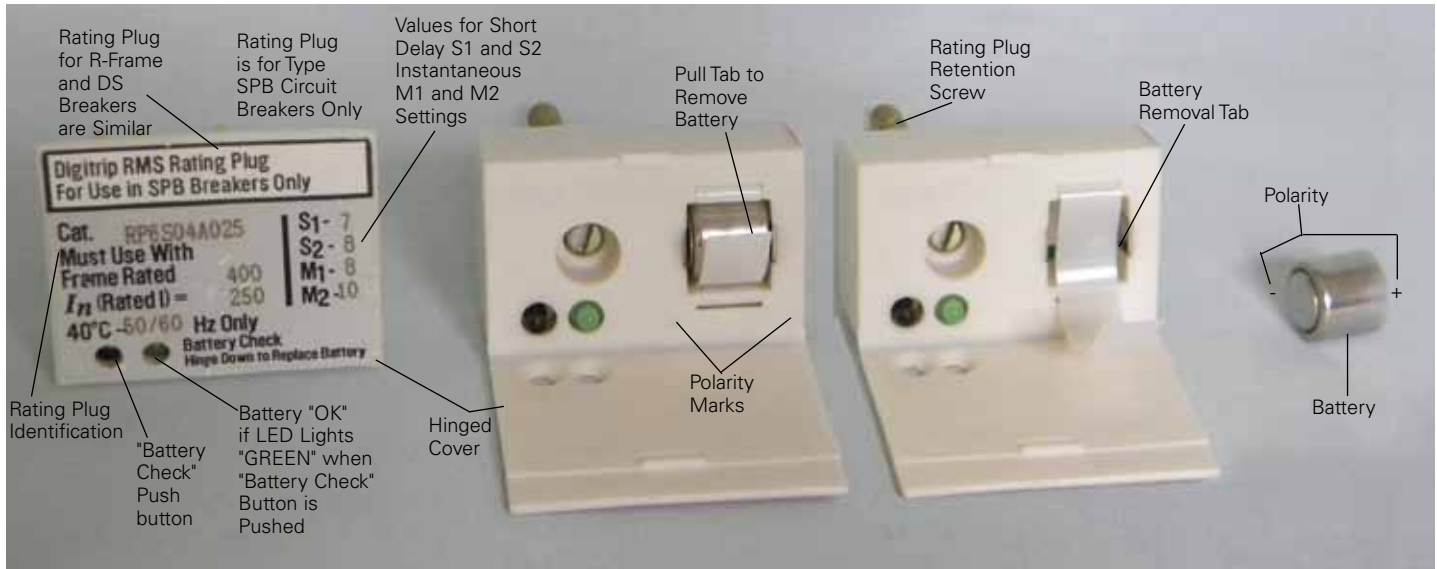
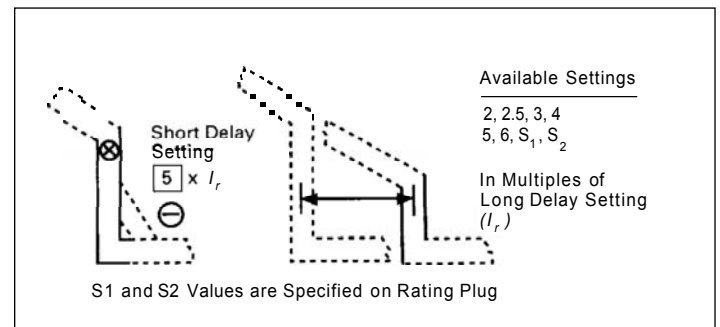
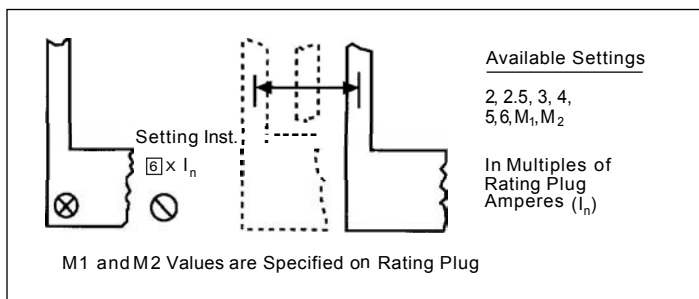

Figure 9. Rating Plug.
Figure 15. Short Delay Current Settings.
Figure 17. Instantaneous Current Settings.
The **Rating Plug** (see Figure 9) fits into a special cavity to complete the Trip Unit (see Figure 1).
Rating plugs have two current ratings listed on their covers (see Figure 9).
There are eight (8) available Short Delay "Pick-up" Current Settings, as illustrated in Figure 15. Six settings are in the range from 2 to 6 times I_r and the other two settings are "S1" or "S2" times I_r (REMEMBER: I_r is the Long Delay Current Setting). The values that "S1" and "S2" have depend upon the type of circuit breaker, and are specified both on the rating plug label (see Figure 9) and on the applicable (LS) Time-Current Curve referenced in Section 6.
There are eight (8) available Instantaneous Current Settings, as illustrated in Figure 17. Six settings are in the range from 2 to 6 times the rating plug value (I_n), and the other two settings are "M1" and "M2" times (I_n). The values that "M1" and "M2" have depend upon the type of circuit breaker, and are specified both on the rating plug label (see Figure 9), and on the applicable (I) Time-Current Curve referenced in Section 6.